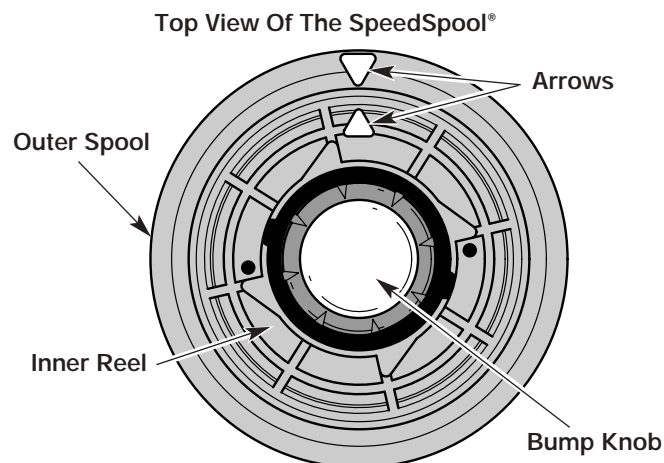

Fig. 14
2. Hold the outer spool and turn the inner reel counterclockwise to line up the arrows on the outer spool and inner reel (Fig. 14).
3. Pull old line out of the line loading and line locking holes (Fig. 14 and 15).